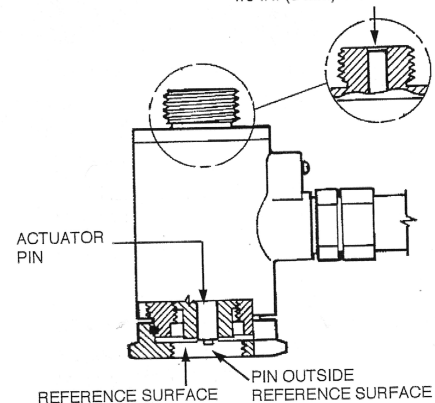

FIGURE 7
- b. The actuator is in the fired position if the following conditions exist (See Figure 7):